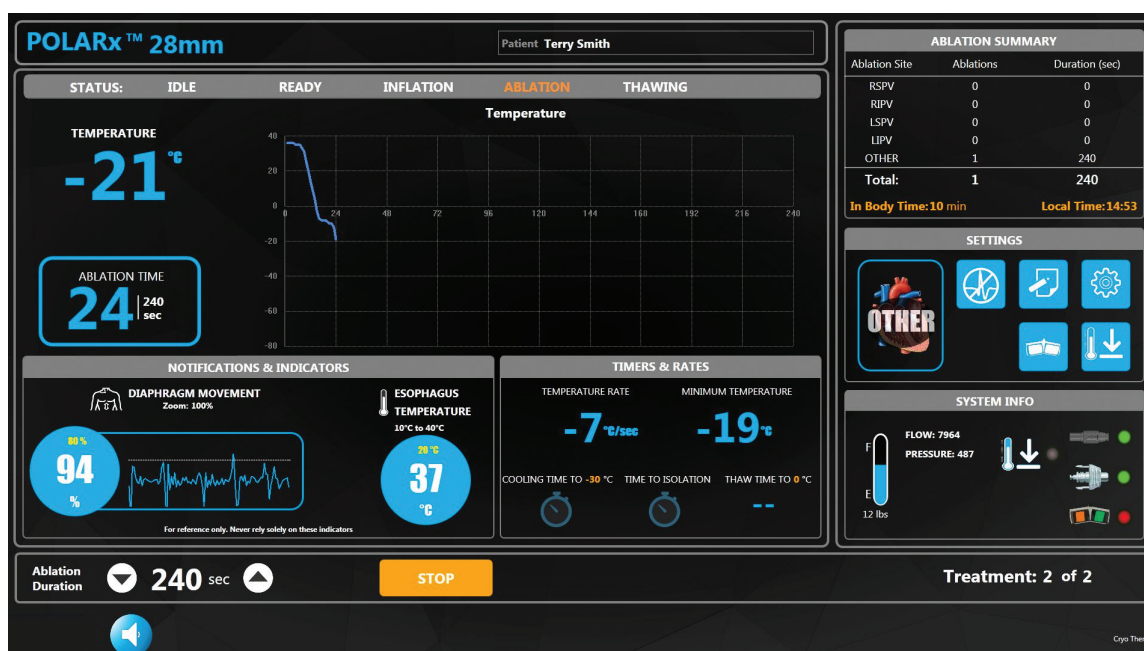

Figure 12. Therapy screen—ablation state
4. When the system is in the ABLATION state, the following indicators will be visible in the Therapy screen (Figure 12):